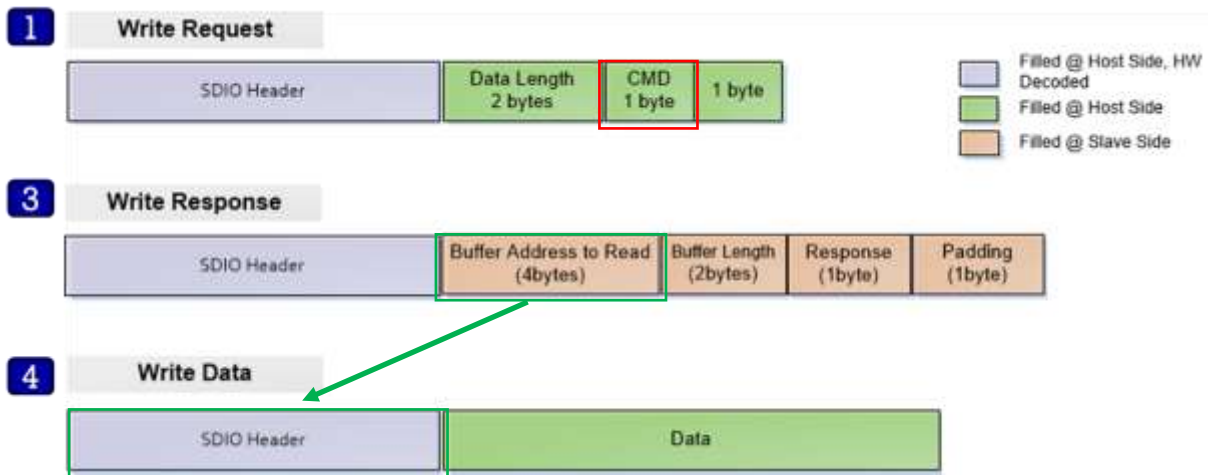

Figure 3: Structure
1. The Host sends a "WRITE\_REQ" command (0x80, red rectangle in Figure 3) to the "General Command" address (0x50080254).
4. The Host sends data to address (BUFF\_ADDR) which is received from the Slave in the Write Response message.(Green rectangle in Figure 3).